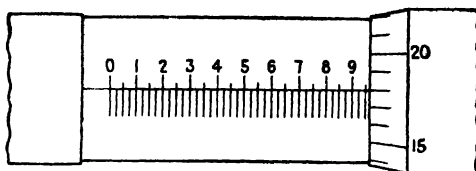
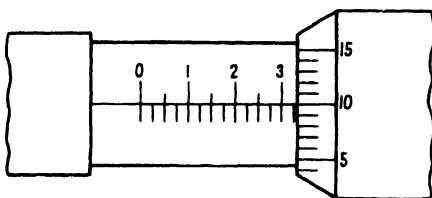
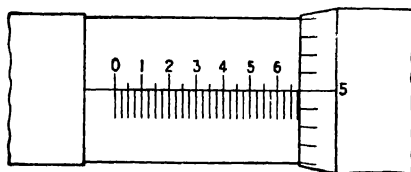

Fig. 3-34.
Fig. 3-35.
Fig. 3-36.
4. What is the reading in Fig. 3-34? Fig. 3-35? Fig. 3-36?